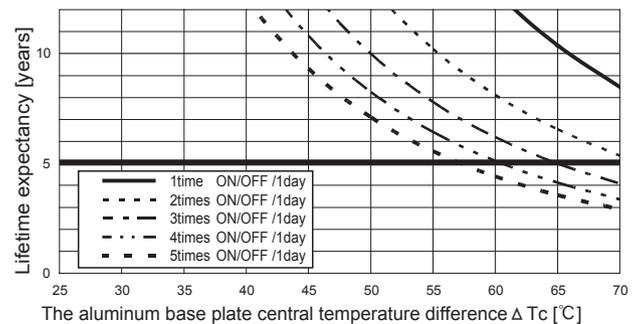

Fig.6.1 Lifetime expectancy against rise/fall temperature difference
- Product lifetime expectancy depends on the aluminum base plate central temperature difference (ΔT_c) and number of cycling in a day is shown in Fig.6.1.